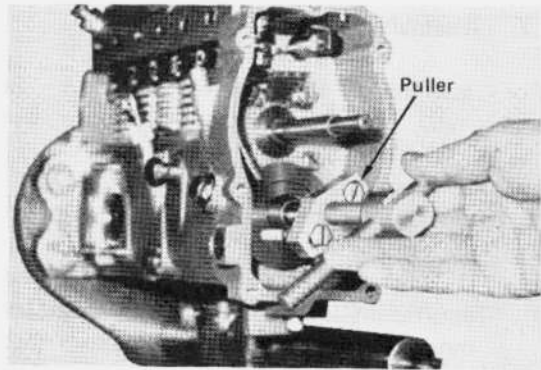

Fig. 3-166 Gear Assy Removal
- 1) Loosen the hexagon round (sleeve) nut (96). Remove the retainer ring (98) of gear assy, and remove the shim plate (99), slip disk (100) and governor gear (101).
- 2) Next, insert the two bolts of the special tool puller (No. 95907-01020) into the 6 mm holes in the camshaft bushing (102), and pull out the camshaft bushing from the camshaft as per Fig. 3-166.